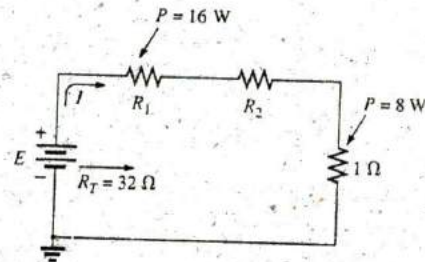

FIG. 5.99
15. Find the unknown quantities for the circuits in Fig. 5.99 using the information provided.